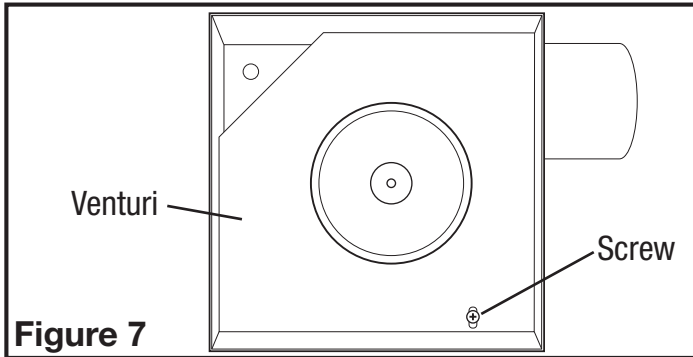
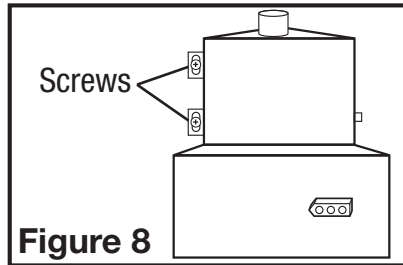

Figure 7
Figure 8
- 1b. Internal Wire Compartment: Remove the screw holding the venturi in place. Lift the venturi up and at an angle to slide it out of the housing (Figure 7). Remove the wire compartment cover screw and place the cover in a secure place (Figure 8).